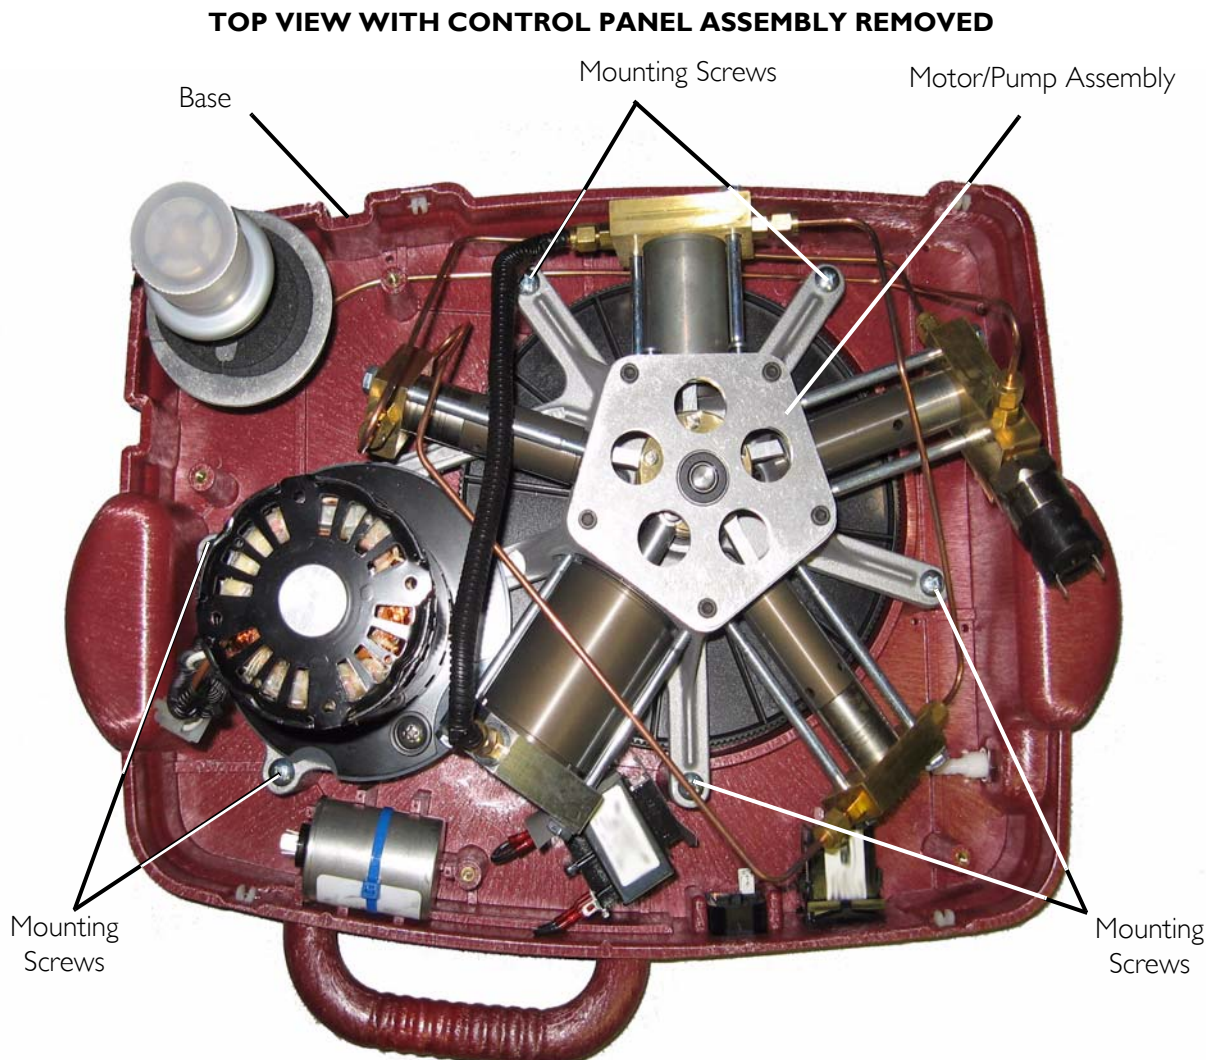

FIGURE 12.5 Timing Belt Replacement
23. Remove the six mounting screws that secure the pump/motor assembly to the base (FIGURE 12.5).
3. Position the motor/pump assembly on the base (FIGURE 12.5).
4. Secure the pump/motor assembly to the base with six mounting screws. Torque mounting screws to 25-30 in-lbs (2.82-3.39 Nm) (FIGURE 12.5).